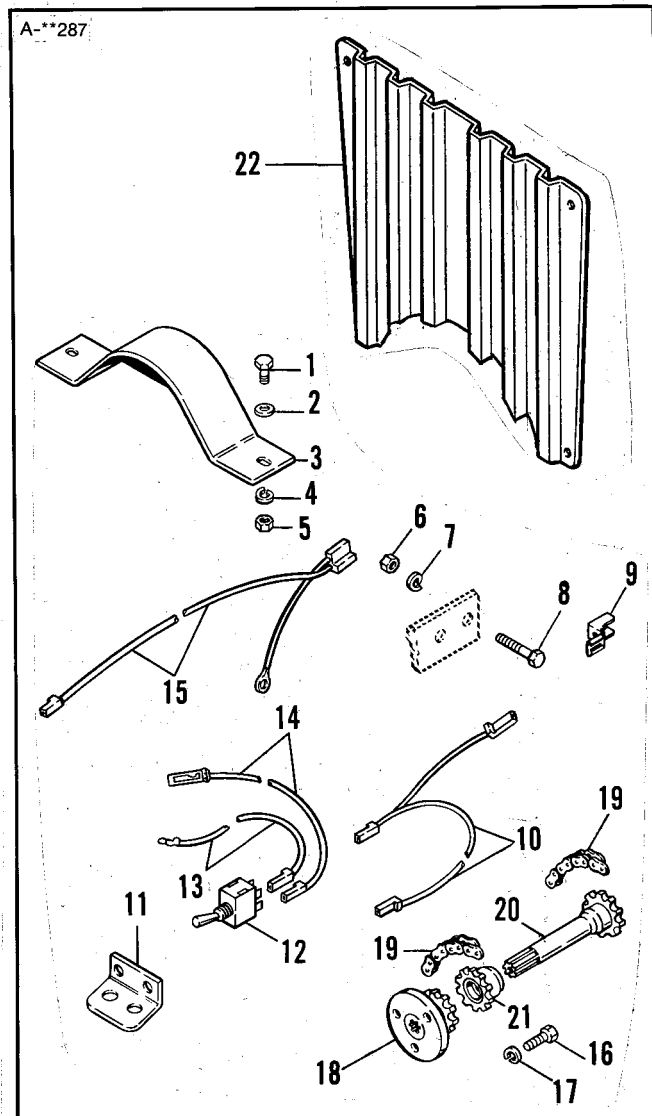
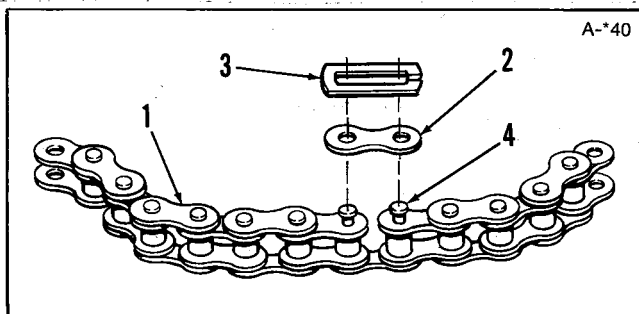

Figure 1.
Figure 2. Chain Connecting Link
1. Lay out the parts shipped with the electric clutch (figure 1). (The electric clutch is not shown).
- 10. Reinstall the grille frame and the new grille (22, figure 1). Do not tighten hardware until after side panels are installed.
- 11. Install the clutch guard (3, figure 1) with two 5/16 x 3/4 capscrews, 5/16 plain washers, 5/16 lockwashers and 5/16 nuts. Install capscrews and plain washers from top.
3. Install the crankshaft adapter (18, figure 1) to the flywheel with three M10 x 1-1/4 x 25 mm capscrews and lockwashers. Torque capscrews to 32 ft. lbs. (43.3 N.m). (On 4WD models, reach between engine and radiator to tighten bolts).
4. Start one of the chains (19, figure 1) onto the adapter (18). Turn the adapter (by turning fan), placing the chain on the adapter, until the chain is resting on top of the adapter.
5. Place the sprocket (21, figure 1) in the chain. Wrap the chain around both sprockets and connect at the bottom with the master link (figure 2). The open end of the connecting link should be opposite direction of engine pulley rotation.
6. Apply oil to the spline of the shaft sprocket (20, figure 1). Align the splines, and insert the shaft into sprocket (21).